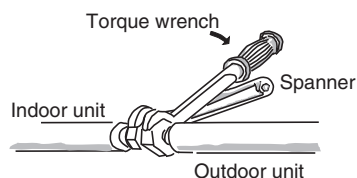

Fig. 5-6
- (2) To fasten the flare nuts, apply specified torque.
- When removing the flare nuts from the tubing connections, or when tightening them after connecting the tubing, be sure to use 2 adjustable wrenches or spanners. (Fig. 5-6)